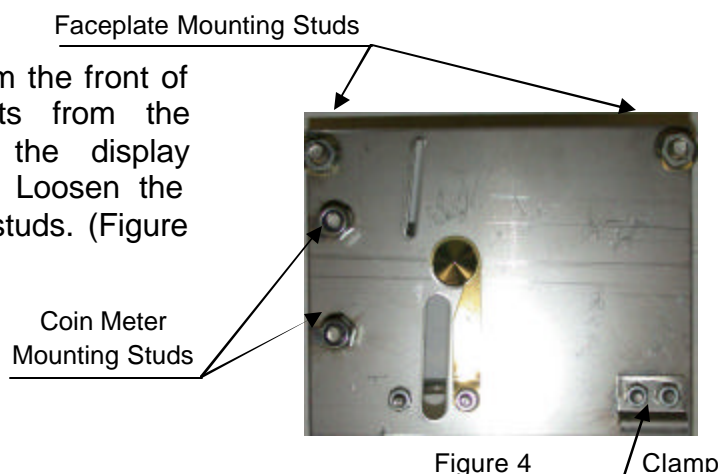

Figure 4
3. Remove the protective coating from the front of the faceplate. Remove the nuts from the faceplate mounting studs and the display mounting studs on the faceplate. Loosen the nuts on the coin meter mounting studs. (Figure 4).